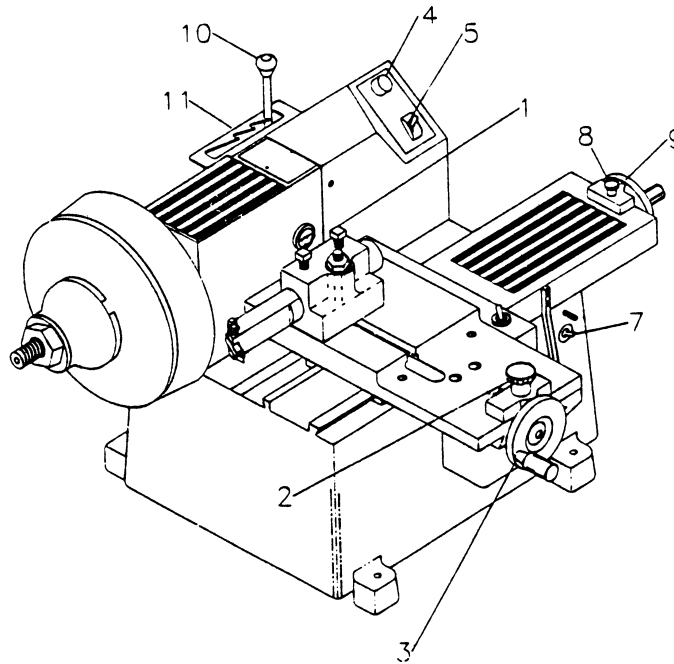

Fig. 4 Lathe controls for refinishing drums
This machine is equipped with variable spindle speeds. There are four speed selections – 85/110/140/185 RPM. The speed change lever (10, figure 4) is located at the rear of the machine behind the control panel. The lever rides in a speed selector plate (11, figure 4) that is notched for each speed. High speed (185) is all the way to the right and low speed (85) is on the left. To change speeds, position lever in the notch labeled with the desired speed.
..loosen the boring bar lock bolts (1, figure 4) and both cross-slide and main-slide carriage feed locking knobs (2 and 8, figure 4)
..slide the boring bar inward or outward and turn the cross-slide and main-slide carriage feed handwheels (3 and 9, figure 4) to position the cutting tool bit over the braking surface of the drum.
NOTE: Be sure the cutting tool will travel over the full surface of the drum before the automatic feed switch (7, figure 4) shuts off and stops the travel of the carriage.
..tighten the drum turning attachment center post locking nut (10, figure 4). Then tighten the two boring bar lock bolts.
..turn the handwheel (3,figure 4) counter-clockwise until the cutting tool touches the drum surface
..turn the main-slide carriage feed handwheel (9,figure 4) and move the carriage in until the cutting tool bit is just inside the undercut of the drum.
..turn variable speed feed control (4, figure 4) to a desired setting. **NOTE:** The carriage feed speed ranges from 0” to .008” per revolution. Do not try to cut too much at one time. Smaller cuts (low carriage feed speed) produce a finer finish.
..with depth of cut set, tighten the carriage feed locking knob (2, figure 4). After initial setup, tighten all locks and turn the automatic carriage feed switch “ON” (7, figure 4) **NOTE:** The carriage feed will stop automatically when the cut is complete. The cutting tool boring bar and cutting tool bit feeds from inside of the drum outward.
..if a second cut is necessary, loosen the carriage feed locking knobs (2 and 8, figure 4) and repeat above procedure